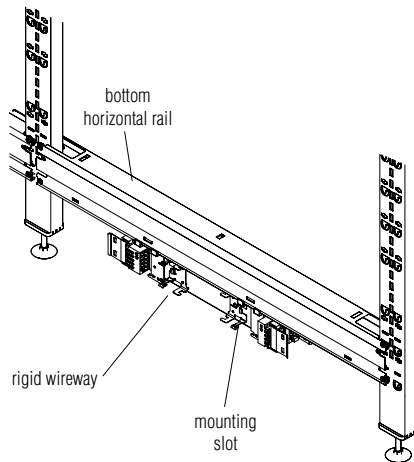
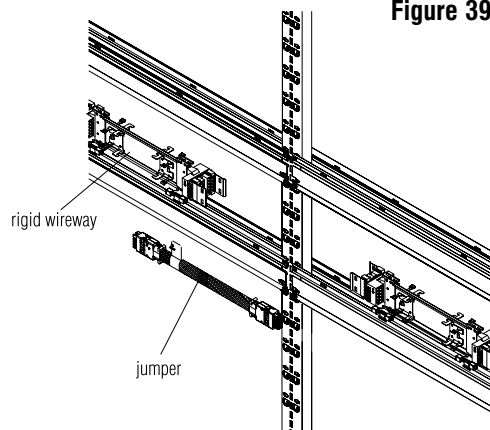

Figure 38
Figure 39
Rigid wireways are installed by first installing the plastic clips into the appropriate slot on the horizontal rail. Slide the clips near side open saddles (**Figure 38**) on to the frame until a snamp is heard. Then squeeze frame until the far side saddles engage the rail and affix in place manually, or with a soft mallet.
Rigid wireways hang off the lowest rail (base power) (**Figure 38**) but sit on top of the rails at other heights (ADA, worksurface height and standing height). **Figure 39**.
2. For power at other heights, position the plastic clips on the top of the horizontal rail. **Figure 39**. Continue installing rigid wireways as required.
Power is passed from panel to panel by using a horizontal jumper. **Figure 39**. Horizontal jumpers use fiberglass mesh and come in two different lengths (17" & 20"). The 17" jumpers are used on in-line conditions, while 20" jumpers are used to pass straight through an intersection or around a 90° corner. See the diagrams on the following page for example installations. **Examples A-E**.